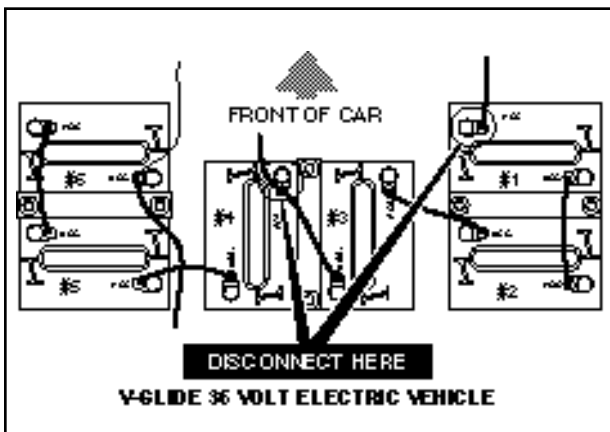

Figure 1
- TURN KEY SWITCH TO "OFF", REMOVE KEY, BLOCK TIRES, PLACE FORWARD/REVERSE LEVER IN "NEUTRAL" AND DISCONNECT BATTERY(IES) PRIOR TO SERVICING. (**ON GASOLINE VEHICLES, DISCONNECT THE NEGATIVE BATTERY LEAD FIRST, FOR ELECTRIC VEHICLES, SEE FIGURES 1 AND 2**)